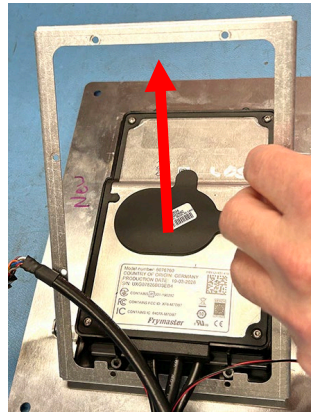

Figure 9
11. Remove the controller frame attachment and discard the frame attachment (see Figure 9).